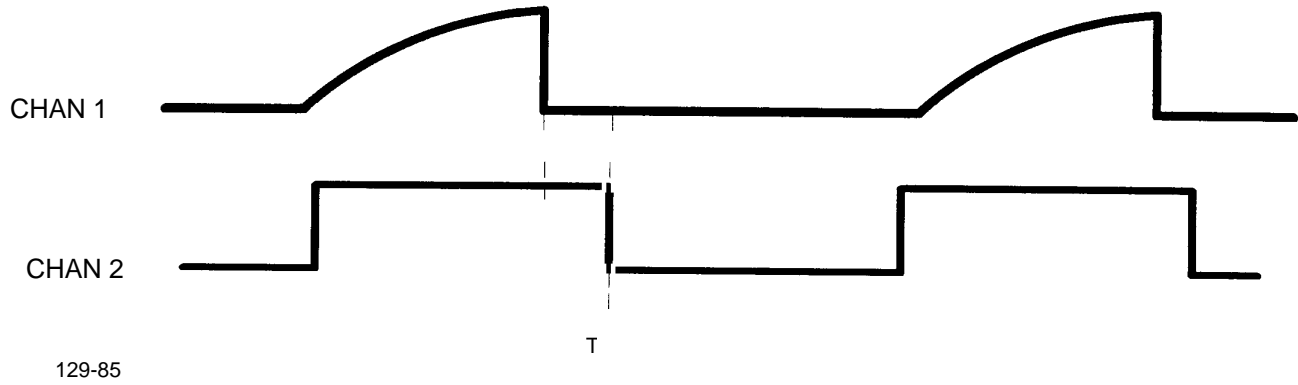

Figure D-36. Signal Shape on Oscilloscope
- h. Measure the two signals on oscilloscope CHAN 1 and CHAN 2 and compare the signals. See Figure D-36. Verify delay time between channels is  $77 \pm 17$ sec.